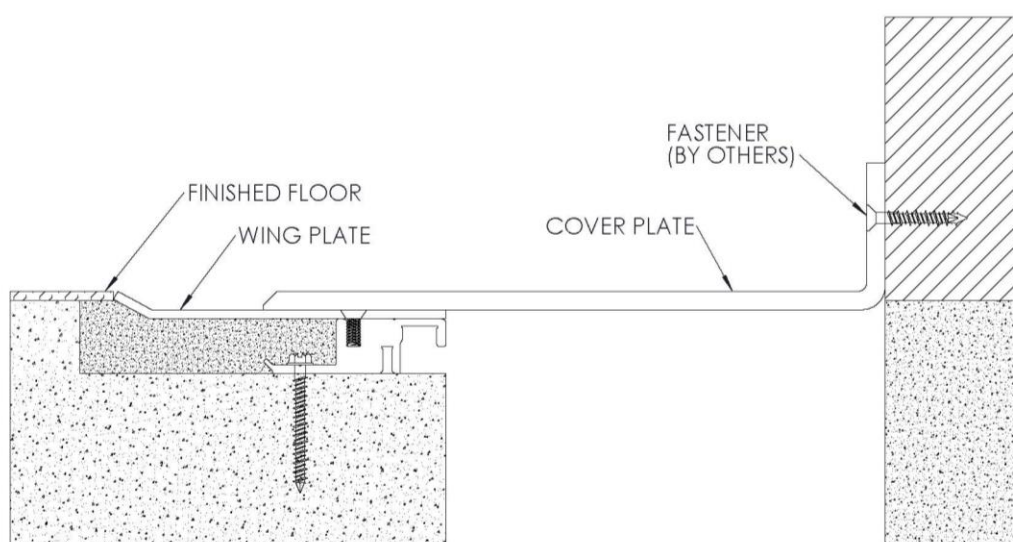

FIGURE 13
6. Position cover plate against wall as shown, making sure the top of its horizontal face is level when set on the wing plate. Attach plate to wall using appropriate 3/16" fasteners for the wall type, 18" o.c. *Note: Wall fasteners are not provided.* **See Figure 13**